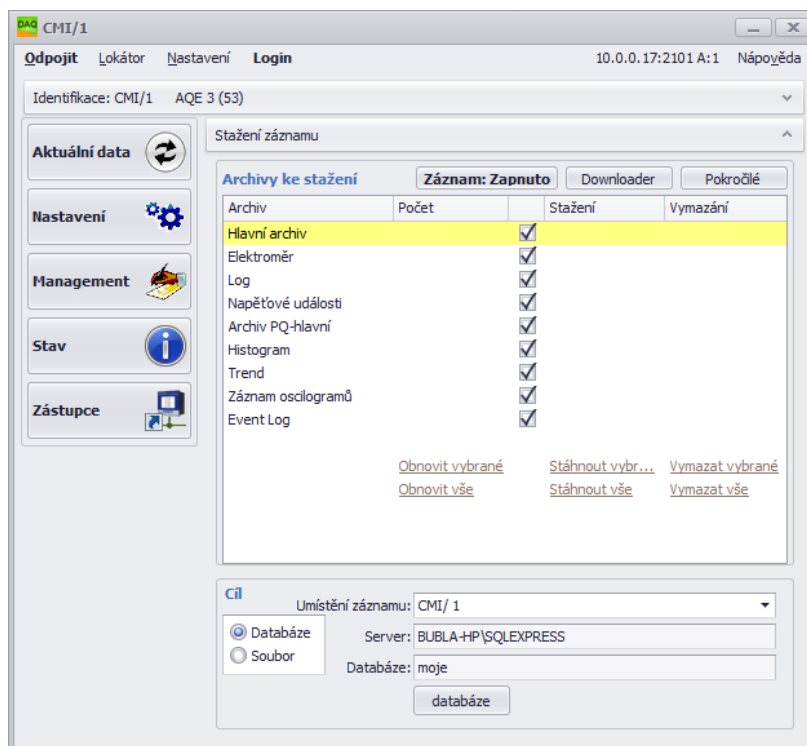

Figure 10: ENVIS.Daq application window with connected analyzer.
5. Press *Connect* on menu or *ENTER*. The application attempts to connect to the specified device. If the connection is successful, it loads the settings stored in the device and displays a summary window (fig. 10).